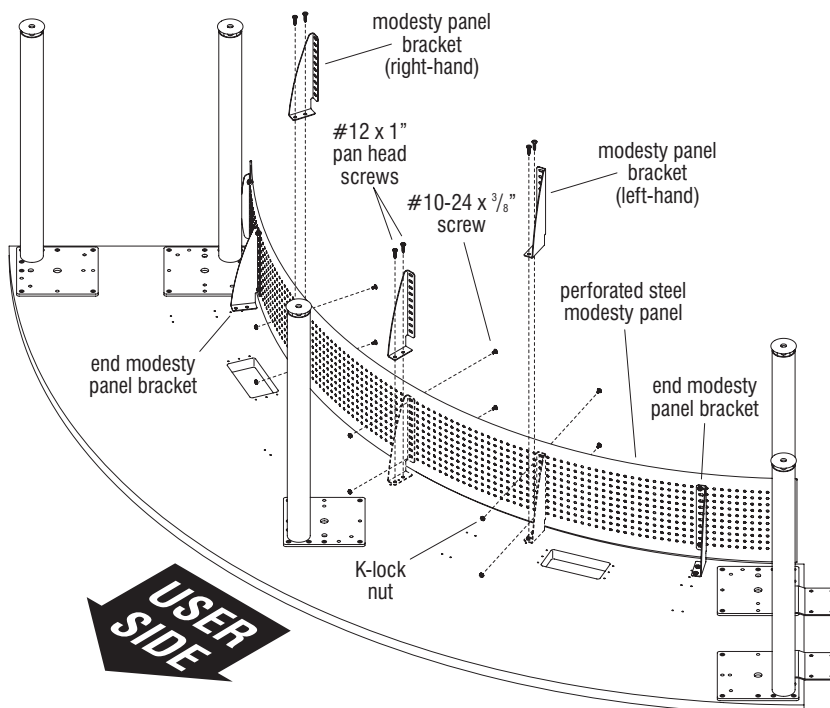

Figure 10
9. Locate the correct handed modesty panel bracket to be installed at the center of the table. Position the bracket over the appropriate pre-drilled holes at the underside of the tabletop. Use the first and third mounting holes from the non-user side of the table edge to secure the brackets to the tabletop. Secure the bracket to the worksurface using two #12 x 1" pan head screws (Figure 10 & Detail L).
10. Secure the modesty panel bracket to the panel using #10-24 x 3/8" screws with heads on the non-user, outside of the table and K-lock nuts on the user side, under the table. Only the top and bottom mounting holes of the modesty panel bracket need to be used for attaching the panel to the bracket (Figure 10 & Detail M).
11. Repeat steps 9 & 10 to install the remaining brackets to secure the modesty panel (Figure 10).
12. Tighten the #10-24 x 3/8" screws and nuts on both end modesty panel brackets to fully secure the modesty panel (Figure 10).